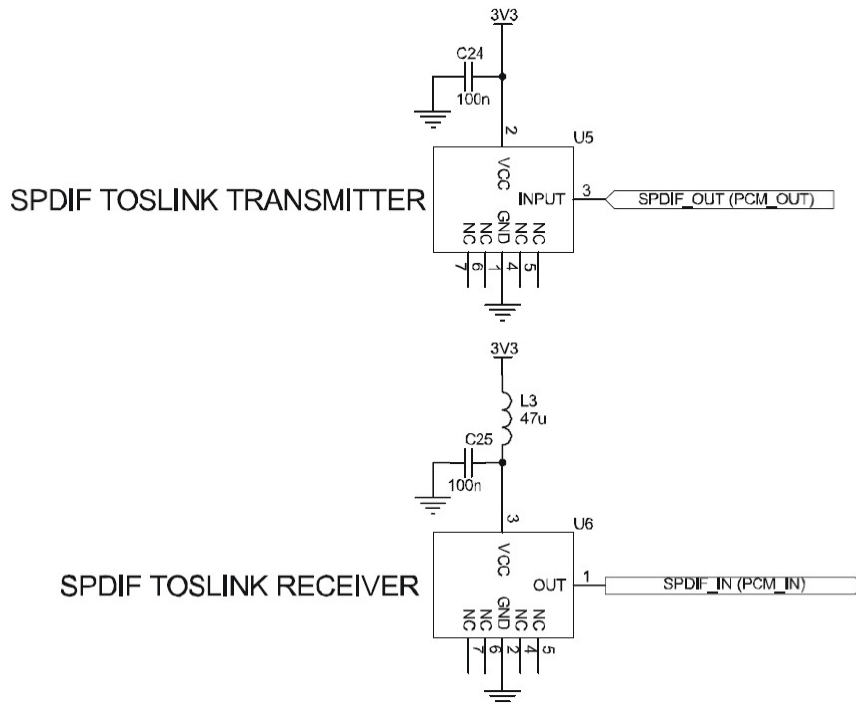

Figure 12: Example Circuit for SPDIF Interface (Optional)
- An optical link that uses Toslink optical components, see Figure 12.